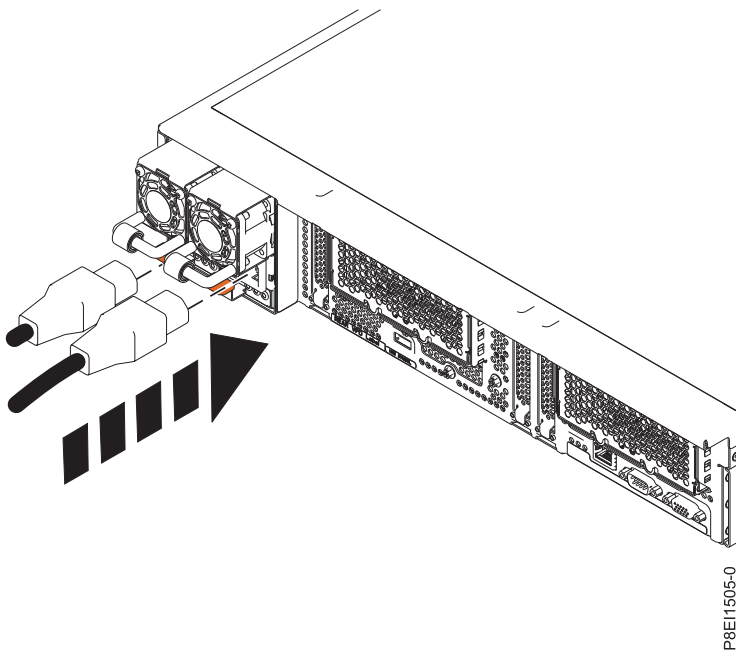

Figure 54. Connecting the power cord to the power supply
- a. Connect the power cord to the power supply. See Figure 54.